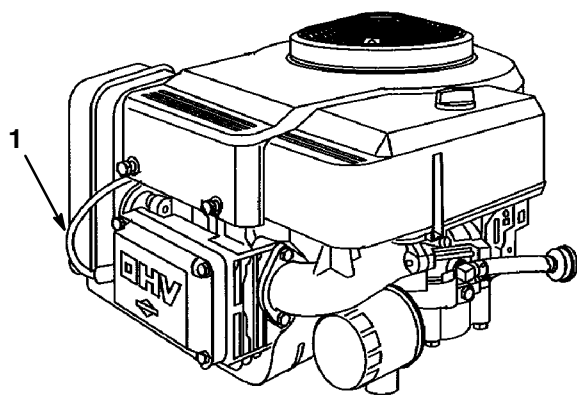

Figure 25
- Pull the wire(s) off the spark plug(s) (Fig. 25). Clean around the spark plug(s) to prevent dirt from falling into the engine and potentially causing damage.
3. Push the wire(s) onto the spark plug(s) (Fig. 25).